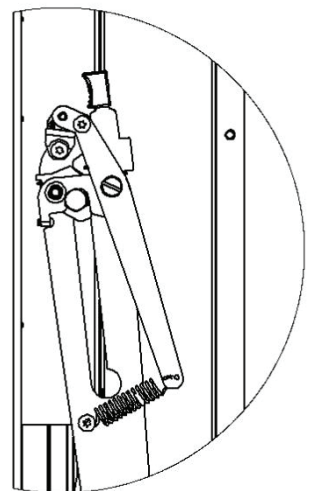

FIGURE 1
- 5. Optional Self-Closing Mechanism: Integrated in hold open arm assembly. (Figure 1)